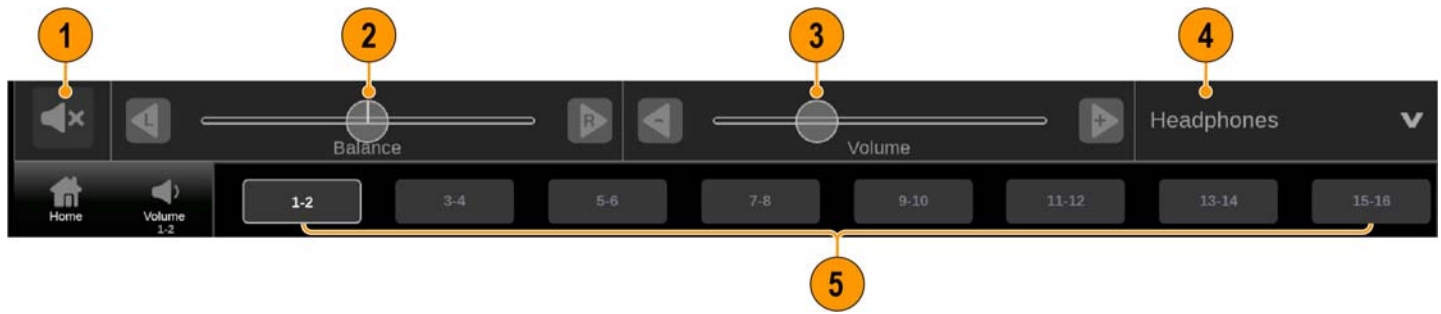

Figure 63: Mute, balance, volume, device, and source controls
1. Select the volume icon. (See Figure 63.)